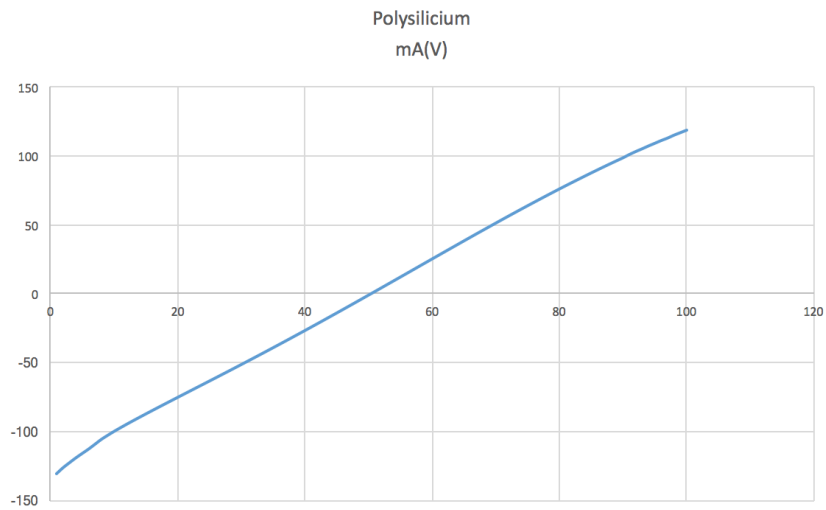

Figure 9: Measurement of the resistance of the polysilicium.
- Figure 9 shows the resistivity of the polysilicium